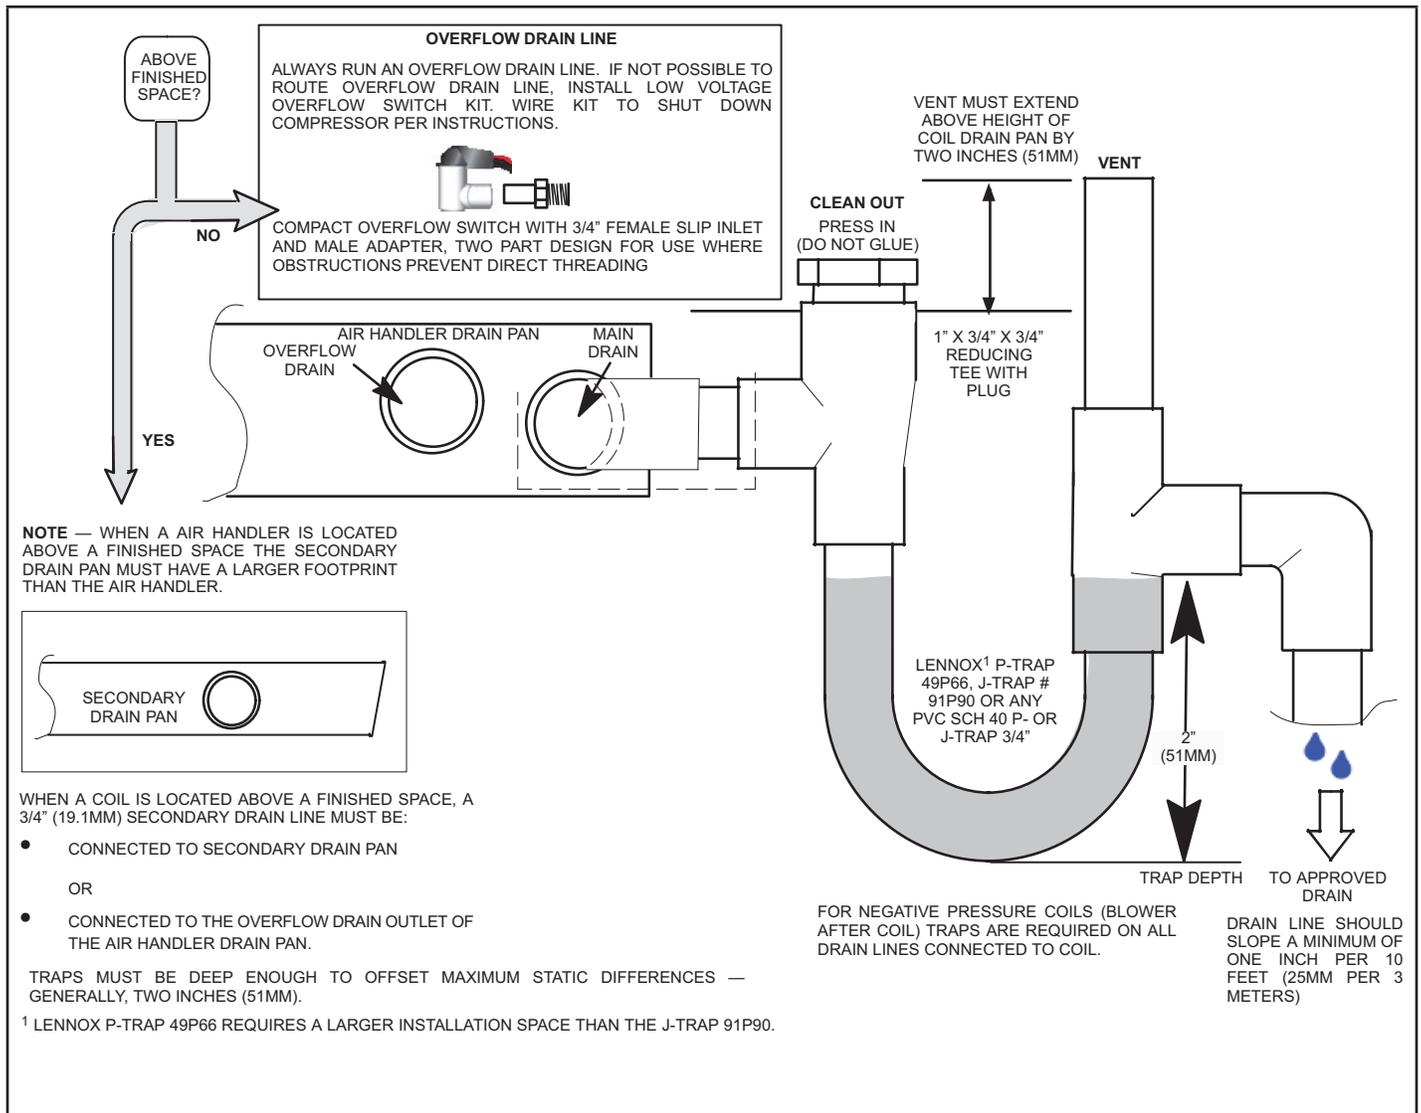

FIGURE 15. Typical Main and Overflow Drain
- 6 - Install a 2" trap in the main (primary) drain lines as close to the unit as practical (see FIGURE 15). Make sure the top of the trap is below the connection to the drain pan to allow complete drainage of the pan.
NOTE - Horizontal runs must have an anti-siphon air vent (standpipe) installed ahead of the horizontal run. See FIGURE 15. An extremely long horizontal run may require an oversized drain line to eliminate air traps.